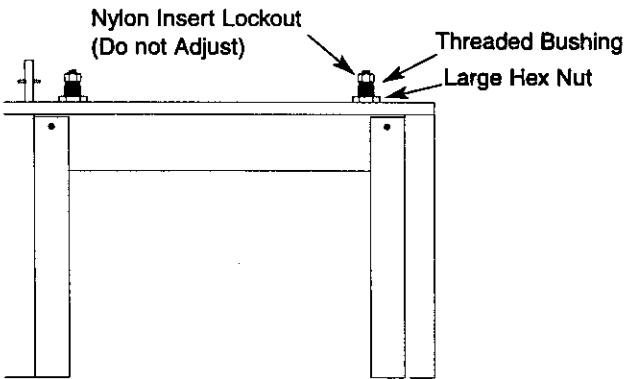

Figure 10 - Adjusting Feed Roller Height
Refer to Figures 10, 15, and 16, pages 10, 16 and 18. The planer/molder feed rollers can be raised or lowered as needed. The infeed and outfeed rollers are set $\frac{3}{16}$ " below the cutterhead (not the knives) at the factory for planing operation. The infeed and outfeed rollers have to be set $\frac{5}{16}$ " below the cutterhead for molding operation using the pattern knives. Feed rollers must be adjusted properly for smooth feeding of the workpiece.
- Loosen the large hex nuts (See Figure 10 and Figure 15, Key No. 10) on both sides of the infeed roller using the wrench provided.